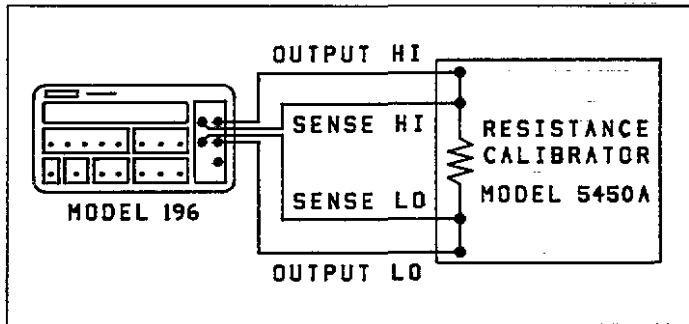

Figure 4-3. Connections for Ohms Verification (300Ω–30kΩ Range)
2. Using Kelvin test leads (such as the Keithley Model 1641) connect the resistance calibrator to the Model 196 as shown in Figure 4-3.
6. Utilizing Figures 4-3 and 4-4, check the 3kΩ through 300MΩ ranges by applying the respective resistance levels listed in Table 4-4. Verify that the readings are within the limits listed in the table.